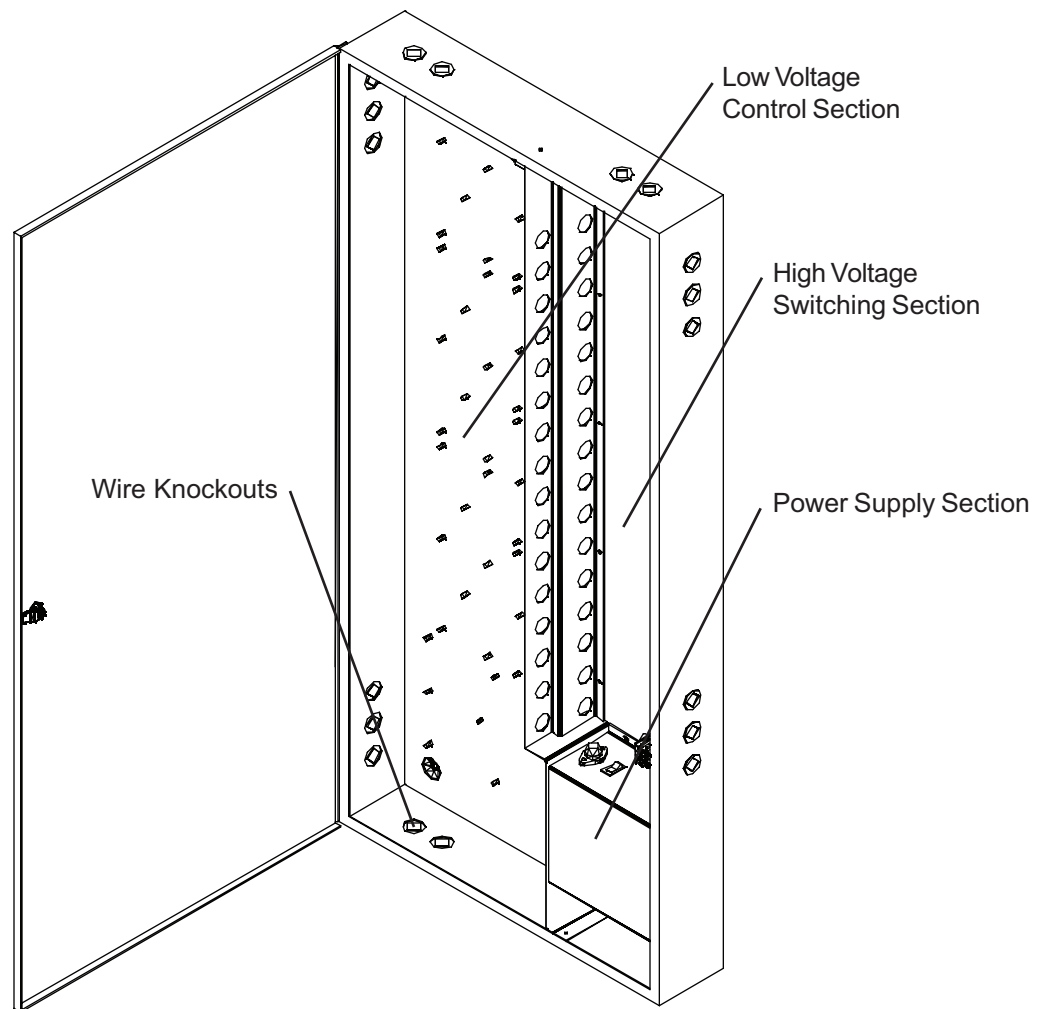

Figure 3: Enclosure for MCP-0032 panel shown
4. When running line voltage to the relays, do not run any wiring through the left side of the panel. This side of the enclosure is for low voltage only. Running line voltage in this area may cause induced voltage signals to the Touch-Plate system and voids all warranties. (See Figure 3 for details)
5. Use the stamped knockout holes for running wiring into the panel, or use a Greenlee punch to create a clean hole of the appropriate size. Do not use drills and uni-bits to create other holes in the walls of the enclosure, as they create thousands of metal shavings that fall into the panel and its circuitry. If needed, use wire ways to run wire around the panel to one of the pre-made openings. (See Figure 3 for details)
6. The power supply in the MCP panel is pre-wired and contains all wiring necessary to convert line voltage to low voltage. Do not tamper with the power supply cover. Failure to follow this guideline may cause damage to the system and delay system completion and factory turn on procedures. (See Figure 3 for details)